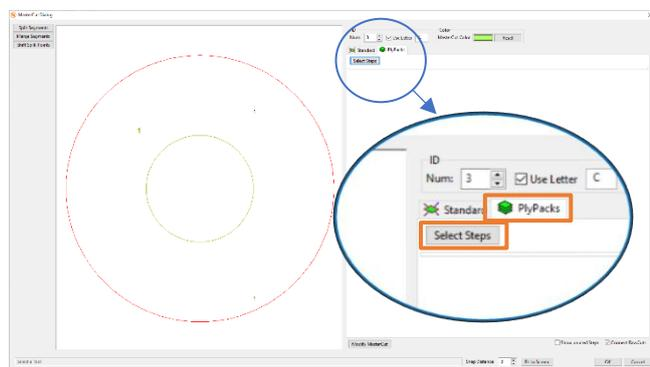

Figure 191
- Inside the MasterCut dialog you can switch between the Standard and the PlyPacks Tab. Previously, we used the Standard Tab when linking segments to each other. The PlyPacks Tab can be considered completely independent. Enter the PlyPacks Tab  PlyPacks and click Select Steps (Figure 191).